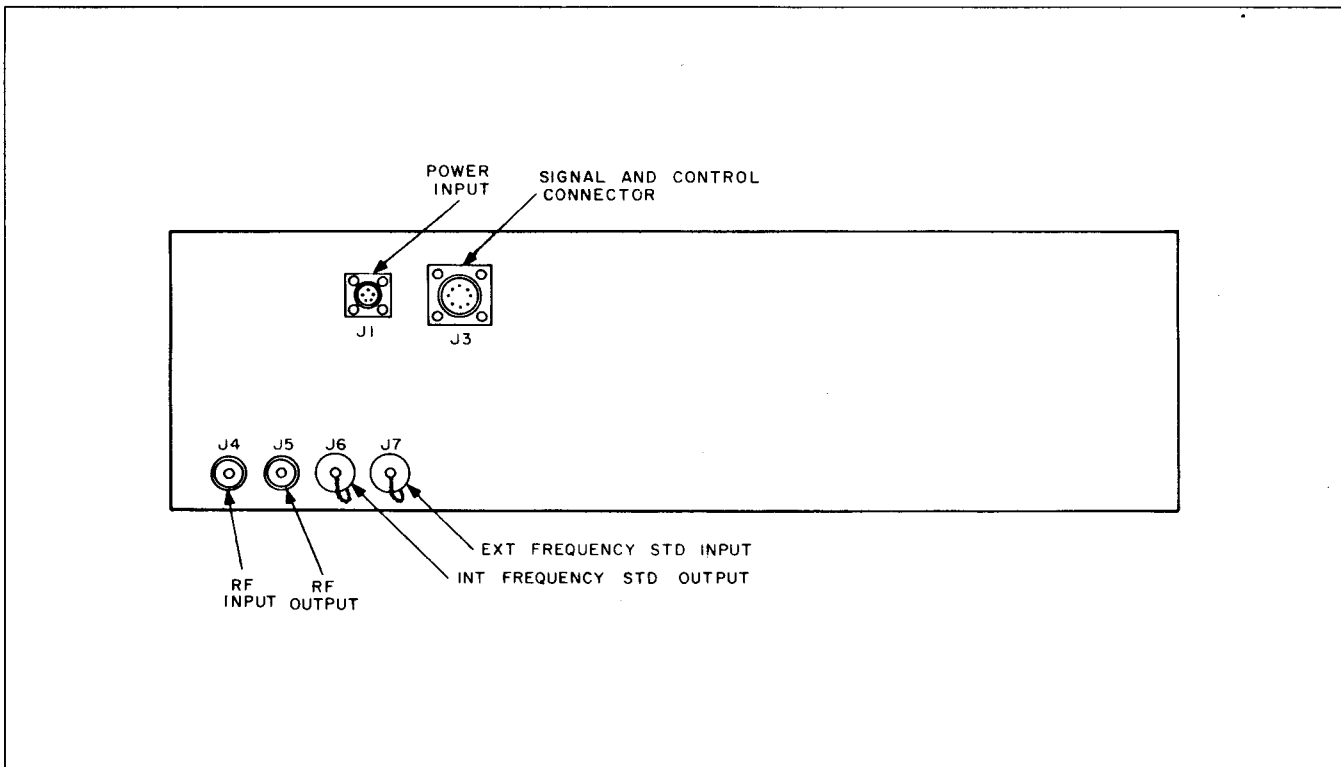

Figure 1-1. Transceiver SC901X, Rear View
by supplying 6.3 volts AC at 2 amperes, 255 volts DC at 40 milliamperes, 26.5 volts DC at 600 milliamperes and -30 volts DC at 10 milliamperes. See figure 1-1 and 6-1.
1.5.3.2 An external frequency standard can be connected to J7 (see figure 1-1), to synchronize the Transceiver to a 5 MC standard. Alternately, the internal frequency standard can be used to synchronize other units or for test purposes by connecting to J6.